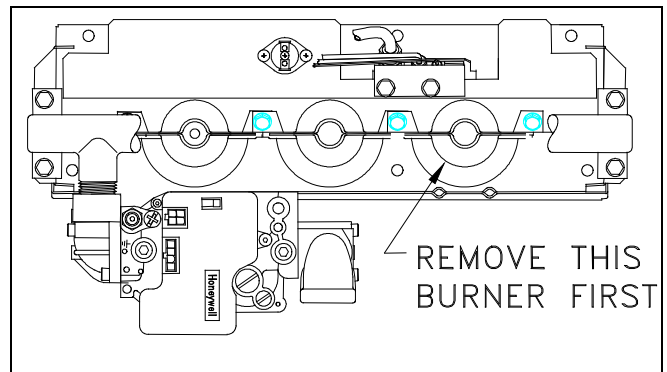

Figure 21. Main Burner Removal.
4. Starting with burner farthest from gas control, remove main burner screws and main burners. Note how burners overlap. Burner farthest from gas control is on top. See Figure 21.